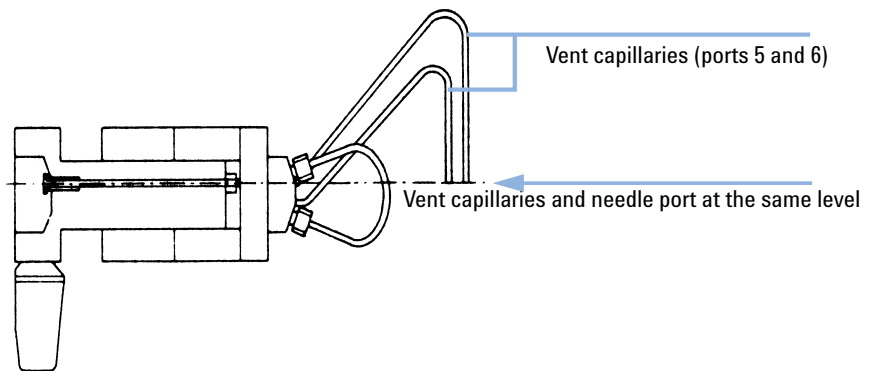

Figure 7 Vent Capillaries
- The outlets of the two vent capillaries (ports 5 and 6) and the needle port must be at the same level to prevent siphoning (see Figure 7 on page 15).